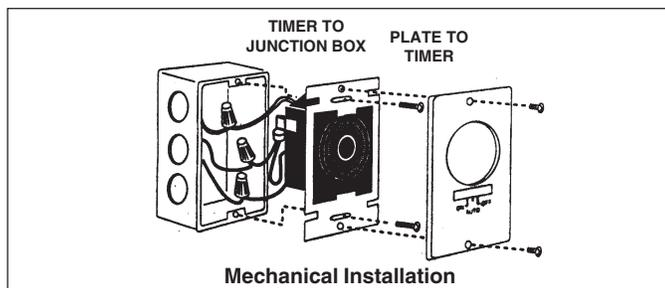

Figure 2
5. The timer is mounted onto a metal adapter plate. Using the two longer screws provided, secure this metal plate and timer assembly using the holes in the junction box where the wall switch had been mounted (see Figure 2).